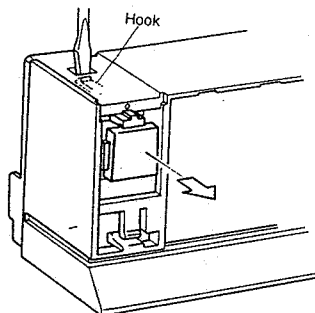

Fig. 8
5) Pull out the POWER button while depressing the tab of the POWER button. (See figure 8)